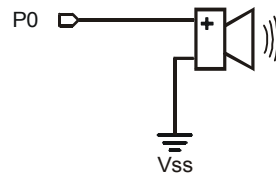
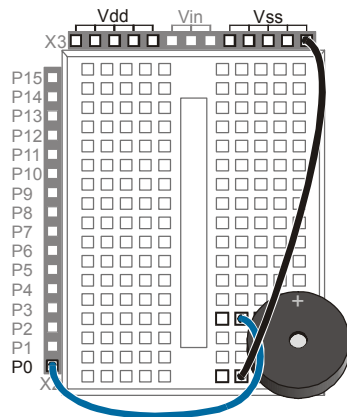

Figure 1-1
Figure 1-2
- ✓ Build the circuit shown by the schematic in Figure 1-1 and the wiring diagram in Figure 1-2.
- ✓ Verify that your piezo transducer is positioned the same as the one shown in the wiring diagram in Figure 1-2.